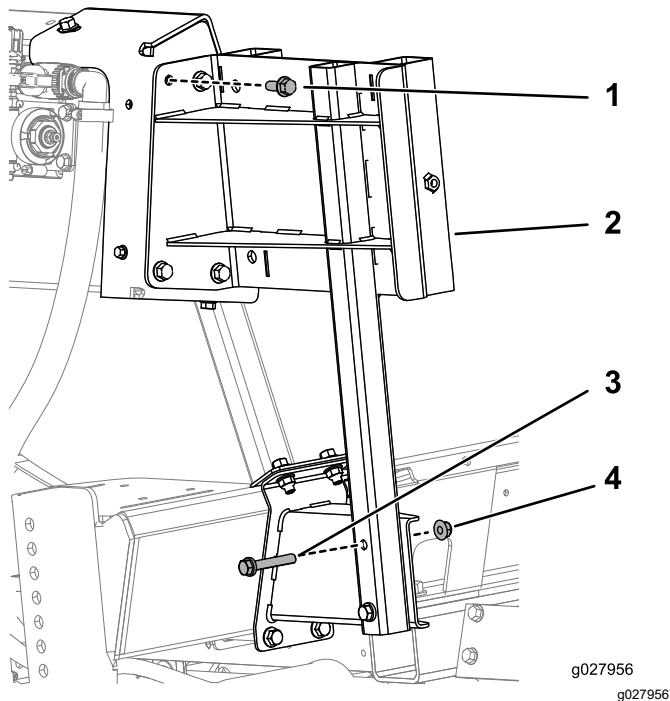

Figure 13
5. Secure the reel-shelf support bracket to the upper and lower brackets using 4 bolts (3/8-16 x 1 inch), 2 bolts (3/8-16 x 2 1/4 inch), and 6 flange nuts (3/8-16 inch) as shown in Figure 13.